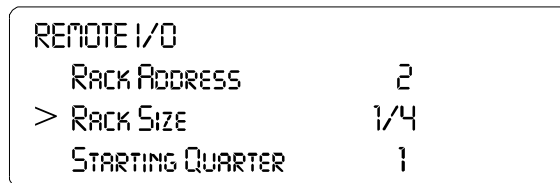

FIG. 11: REMOTE I/O/SETTING RACK SIZE
Step 10. Press the down arrow button until the cursor is in front of Rack Size. (See Fig. 11)